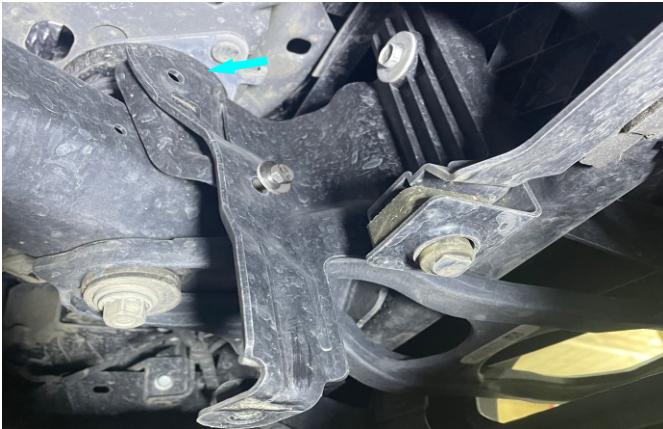

Fig. 8
8. Remove 2nd factory bolt on the left side of the vehicle as shown in fig.8.